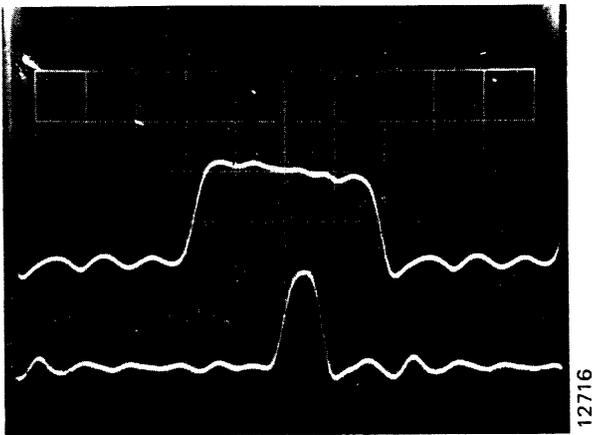

Figure 3-13. Skew One-Shot Adjustment Waveform
- Increase the scope sweep rate to 20 nanoseconds per division, and center the Channel 1 positive half cycle at the 50-percent amplitude points. See Figure 3-13. Fine adjust potentiometer R16 to position the leading edge of the Channel 2 pulse exactly center of the Channel 1 half cycle at its 50-percent amplitude point.